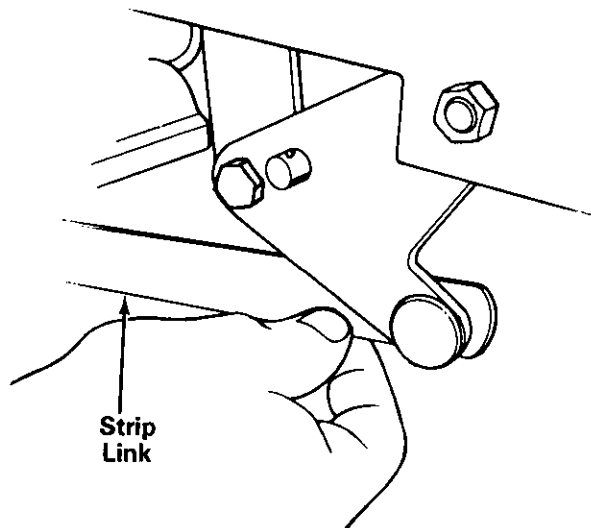

FIGURE 6
- D. Attach left hand hanger plate assembly (W) to left side of tractor in same manner.
6. **Units with serial numbers 126,001 and above:** Remove the strip links from each side of the unit as shown in figure 6. Retain the strip links and hardware in a safe place for reassembly when snow thrower is removed.